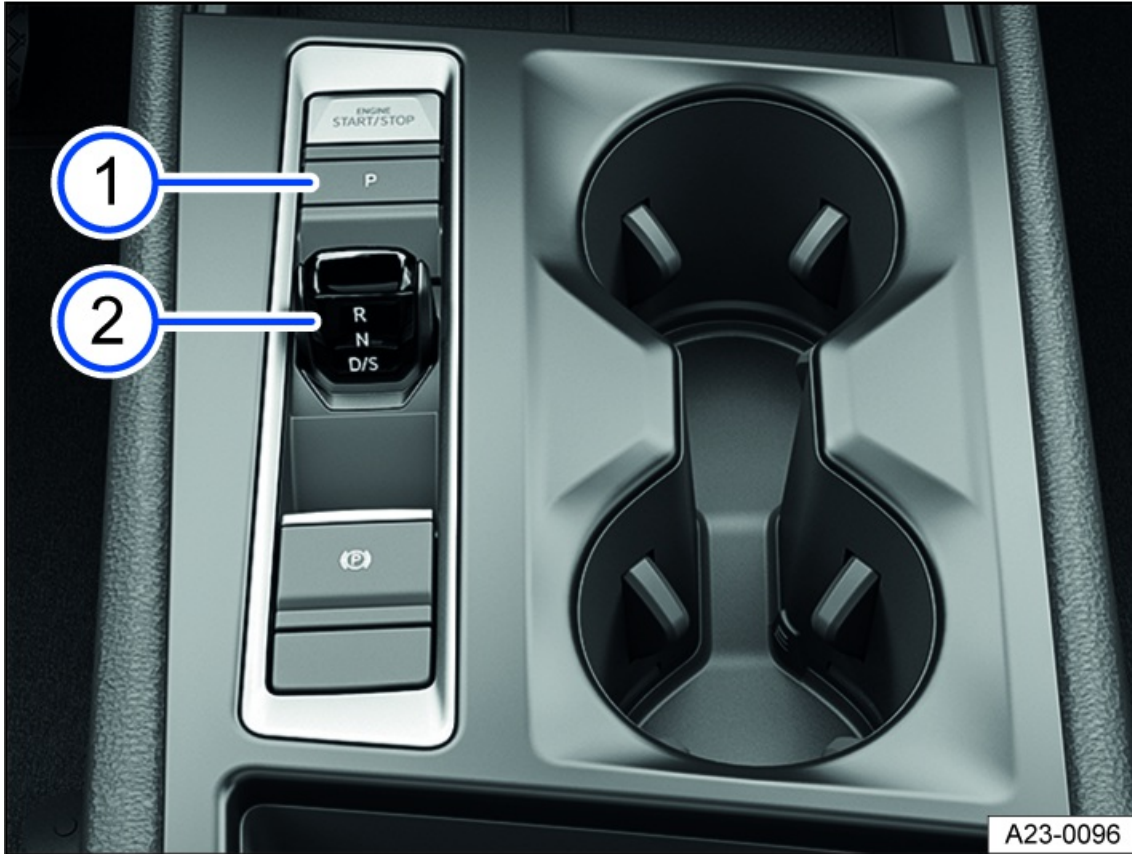

Fig. 94 In the center console: selector lever of the automatic transmission.
3. Push the selector lever in the desired direction *fig. 94* ②.
To engage the parking lock, press the **P** button *fig. 94* ①.